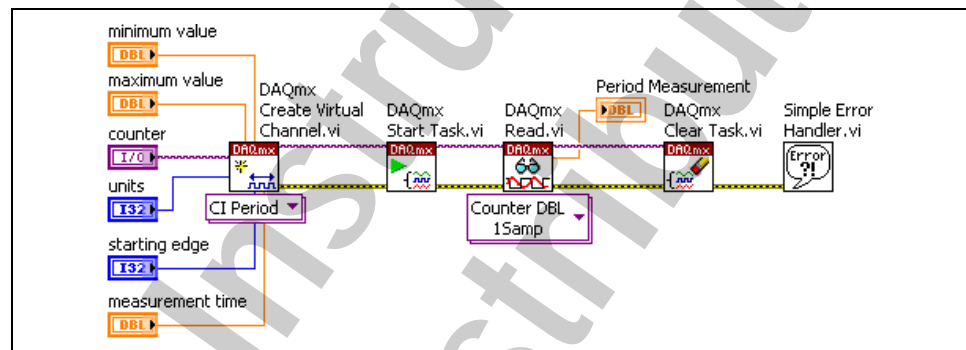

Figure 6-14. Period Measurement VI Block Diagram
3. Modify the block diagram to measure period, as shown in Figure 6-14, using the following items: